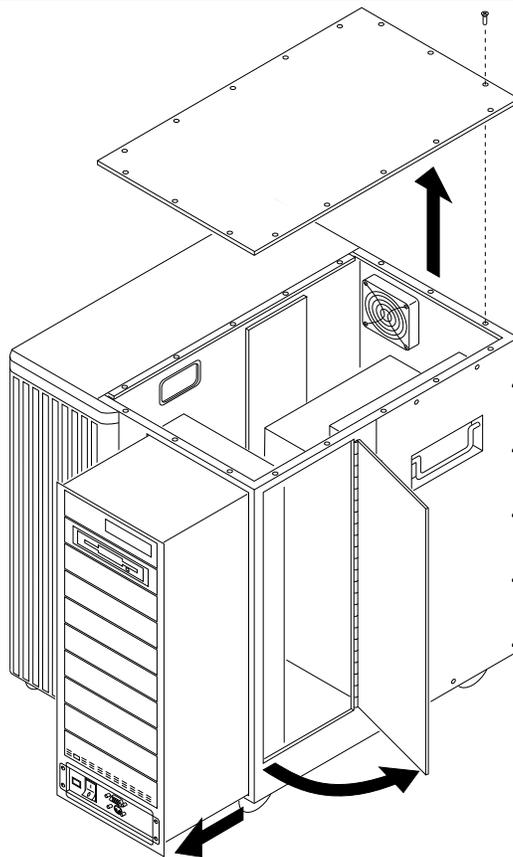

Figure 4-1. Removing the MAP/100 Metal Top
2. Use a flathead screwdriver to remove the 17 screws holding metal top of the MAP/100. See Figure 4-1.